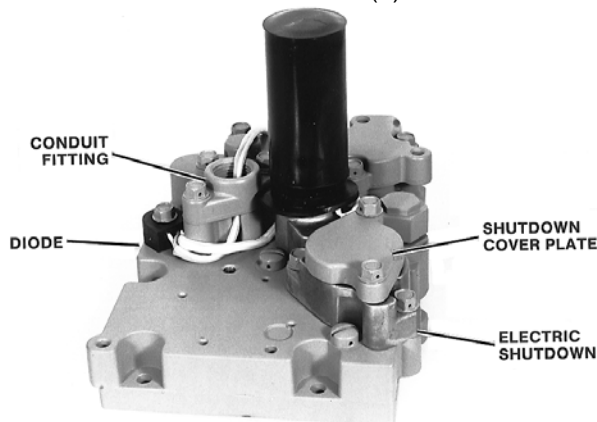

Figure 2-2. Electric Shutdown Device
The Electric Shutdown Device (Figure 2-2) is installed on top of the right front corner of the 3161 cover. The device is a solenoid that positions a shutdown lever and limit/shutdown pilot valve.
2. Refer to Figures 2-2 (Electric Shutdown Device), 4-1 (Parts for ETS Electric Shutdown Device), and 4-2 (Parts for ETR Electric Shutdown Device). Place gasket (5) on the governor cover. Place the Electric Shutdown Device on the cover and secure it with three screws (4).
3. Attach the diode (if provided) to the cover as shown in Figure 2-2. Thread the electrical leads from the diode (16) up through the conduit fitting on the cover.